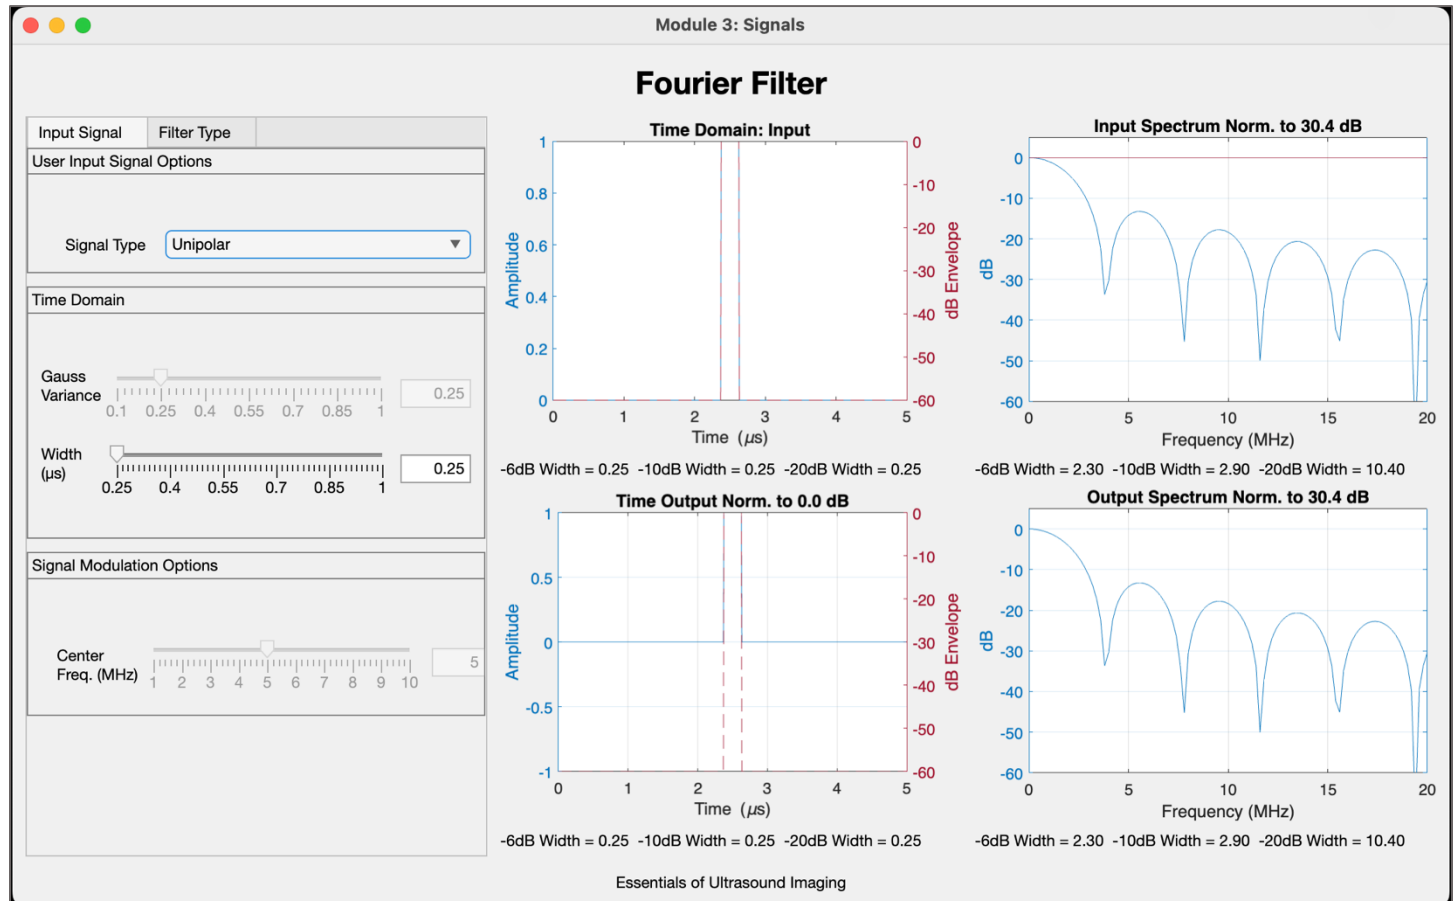

Figure 21: Fourier Filter Simulator GUI - Input Signal Tab
2. From the Signal Type dropdown menu, select an input signal. The default signal type is preset to unipolar input (as shown in Figure 21 **Error! Reference source not found.**).
6. Fine-tune the signal by adjusting its parameters. Upon selecting the input filter, the filter characteristic is displayed at the bottom left corner of the GUI in the Filter Design plot. The filter characteristic is also displayed on the frequency domain plot of the input signal. See Figure 21 for default options.